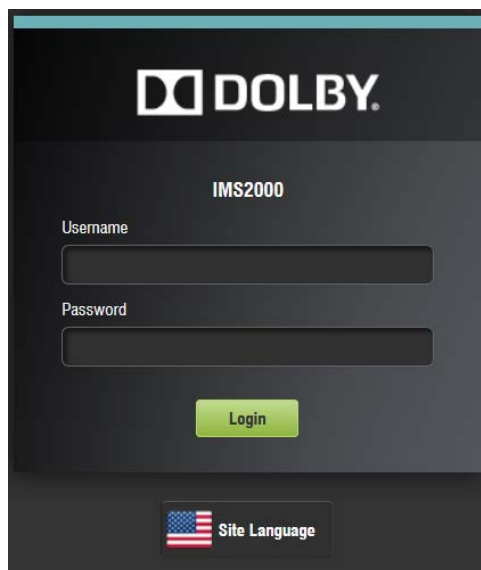

Figure 9-1 Security Manager Section
2. To verify the setup, select **Monitoring > Diagnostics > System > Networking** and verify the IP address listed in the area labeled **Networking** (see Figure 9-1).